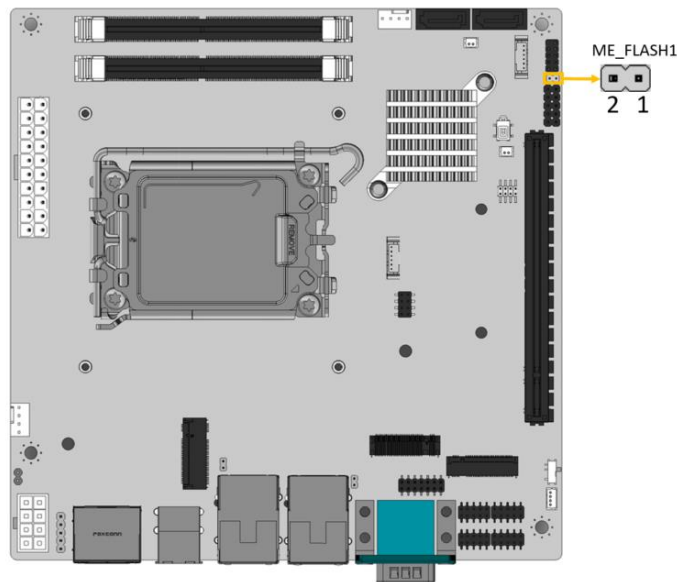

Figure 3-25: Flash descriptor jumper Location
- CN Location:** See Figure 3-25